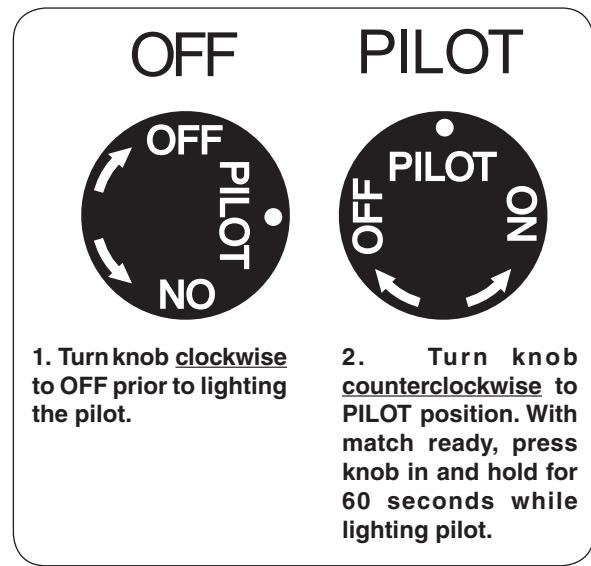

Fig. 25-1 Control knob detail (OFF, PILOT)
1. Locate the valve on the side of the unit. Push in the gas control knob slightly and turn clockwise to **OFF** (Fig.25-1).
2. Turn the control knob counterclockwise to **PILOT** (Fig. 25-1). Push the control knob **firmly and fully** in and hold. Hold a long fireplace match or lighter near the thermocouple to light the pilot. Continue to hold the control knob in for approximately 60 seconds after the pilot is lit, then release the knob. The pilot will remain lit.